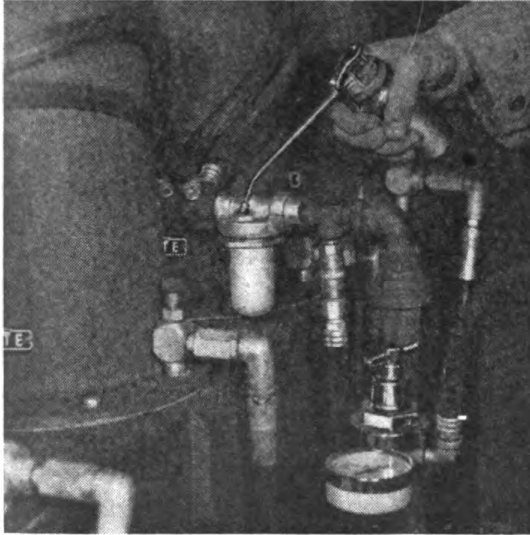
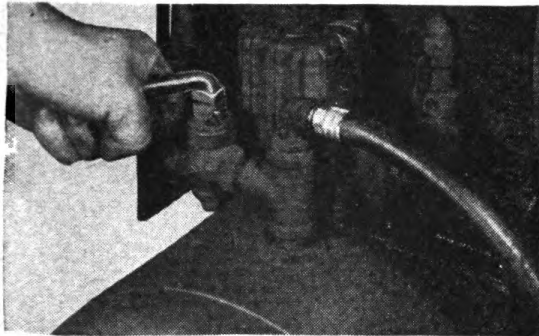

Figure 36
Figure 42
screw and fill reservoir oiler (See Figure 36) installed in main air line to pumps with S.A.E. 10 motor oil. This oiler must be refilled every two or three days. If there is pressure in receiver the valve at receiver outlet (See Figure 42) must be shut off before removing screw.
a. Once each week close valve at receiver outlet (See Figure 42) and if air pressure gauge shows an excessive drop in receiver pressure, check entire unit carefully for leaks.
3. Refill reservoir oiler in main air line to pumps with S.A.E. 10 oil (See Figure 36).